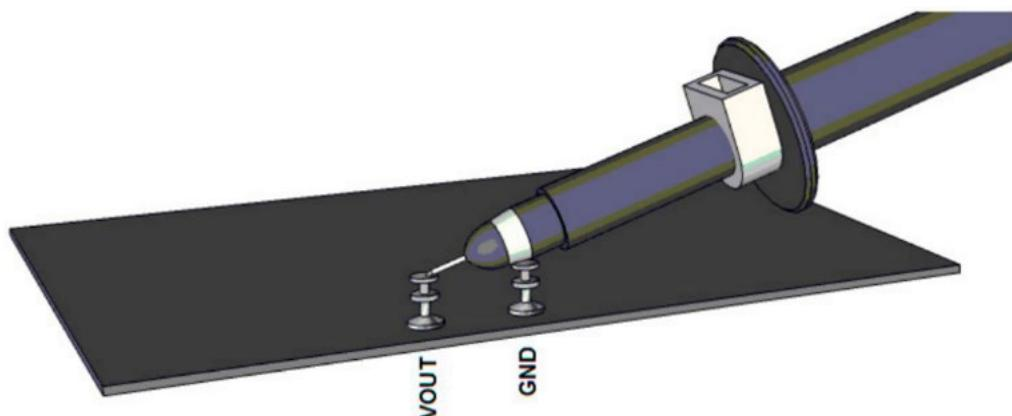

Figure 3. Technique for Measuring Output Ripple and Step Response
3. Set power supply PS1 current limit to 10A. Set the electronic load LD1 to CC mode and 0A current. Slowly increase PS1 to 1V. If PS1 output current reads less than 20mA, increase PS1 to 3.3V. Verify that VM1 reads 3.3V and VM2 reads around 0.89V. Check VM1, VM2, VM3, PS1 output current and LD1 input current. Connect an oscilloscope voltage probe as shown in Figure 3. Set Channel to AC-coupled, voltage scale to 20mV and time base to 10 μ s. Check VOUT ripple voltage. Verify that PGOOD voltage is above 3V.